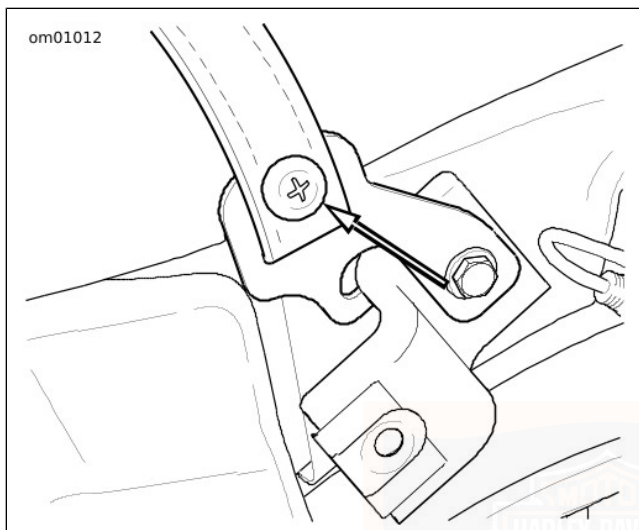

Figure 77. Seat Strap Bracket Screw (typical)
3. See Figure 77. Remove fastener from seat strap bracket.
7. See Figure 77. Install end of seat strap in the bracket slot. Install seat strap bracket fastener. Tighten to 5.4–8.1 N·m (48–72 **in-lbs**).